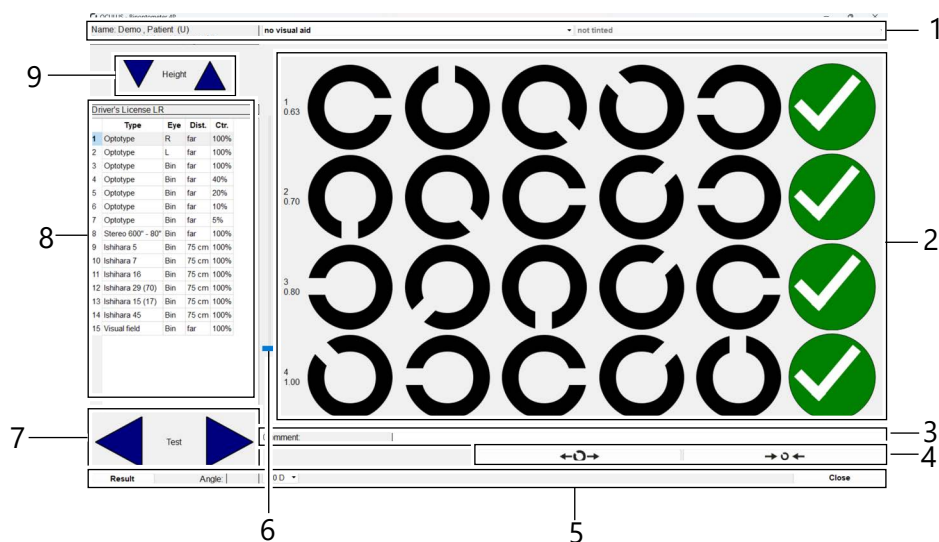

Fig. 19: Examination menu example
To do this, press the requisite arrow button  → Fig. 19 (page 30), item 9.
- Change the viewing angle if the inspection distance is shortened. The selected viewing angle is displayed in the examination menu → Fig. 19 (page 30), item 5. We recommend letting the patient carry out the adjustment, as they can best judge for themselves when they can see the test image well.